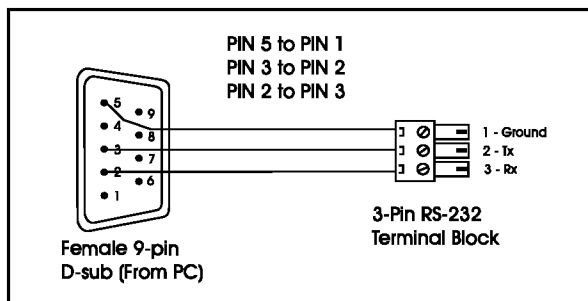

Figure 4: RS-232 Control Cable
- Connect the RS-232 9-pin D-sub port on your PC to the RS-232 rear panel port on the Master **900xl** using a cable as shown in *Figure 4*: